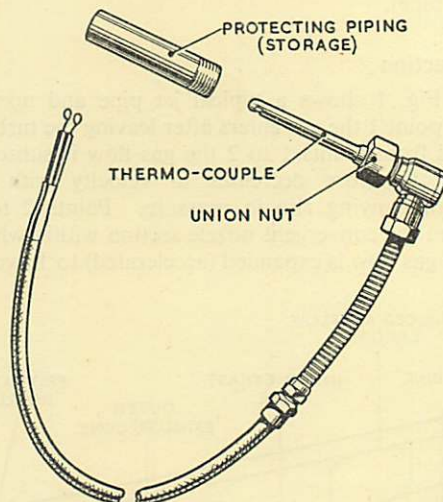

Fig. 2. Hot-Junction Unit of a Thermo-couple.
12. The thermometer operates on the principle of the thermo-couple, described in Part 2, Section 6, Chapter 3. Four hot junctions are normally placed in the gas stream in the tail pipe aft of the turbine, at 90° to each other. Each consists of two conductors, one of nickel-chromium and the other nickel-aluminium, mounted in a ceramic insulator which is housed in a protective metal sheath, as shown in Fig. 2. The sheath has a hole near its tip for the exhaust gases to enter the stagnation chamber. To reduce the gas velocity past the thermo-couple hot junction, which is in the stagnation chamber, and thus avoid an adiabatic temperature rise on impacting the thermo-couple, the exit (although diametrically opposite the entrance) is displaced 0.25 in. farther from the tip and has a smaller area. The gas is thus made to flow through a Z-shaped passage past the hot junction.